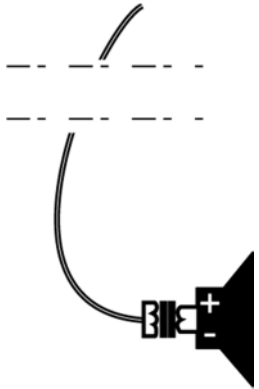

Figure 21 Schematic Diagram of the Loudspeaker and Audio Cable Connection
3. Connect the loudspeaker to the other end of the audio cable, as shown in Figure 21.